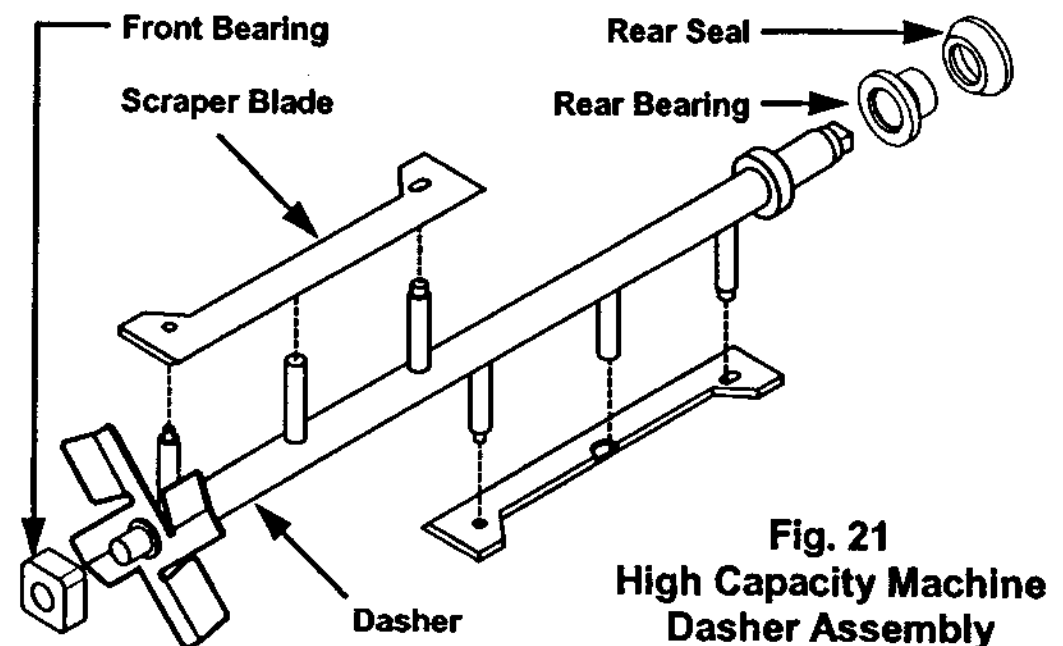

**Fig. 19**
- Remove the blades from the dasher (Fig. 18) by first rotating blade upward (Fig. 19) and then unsnapping one end from the support rod.